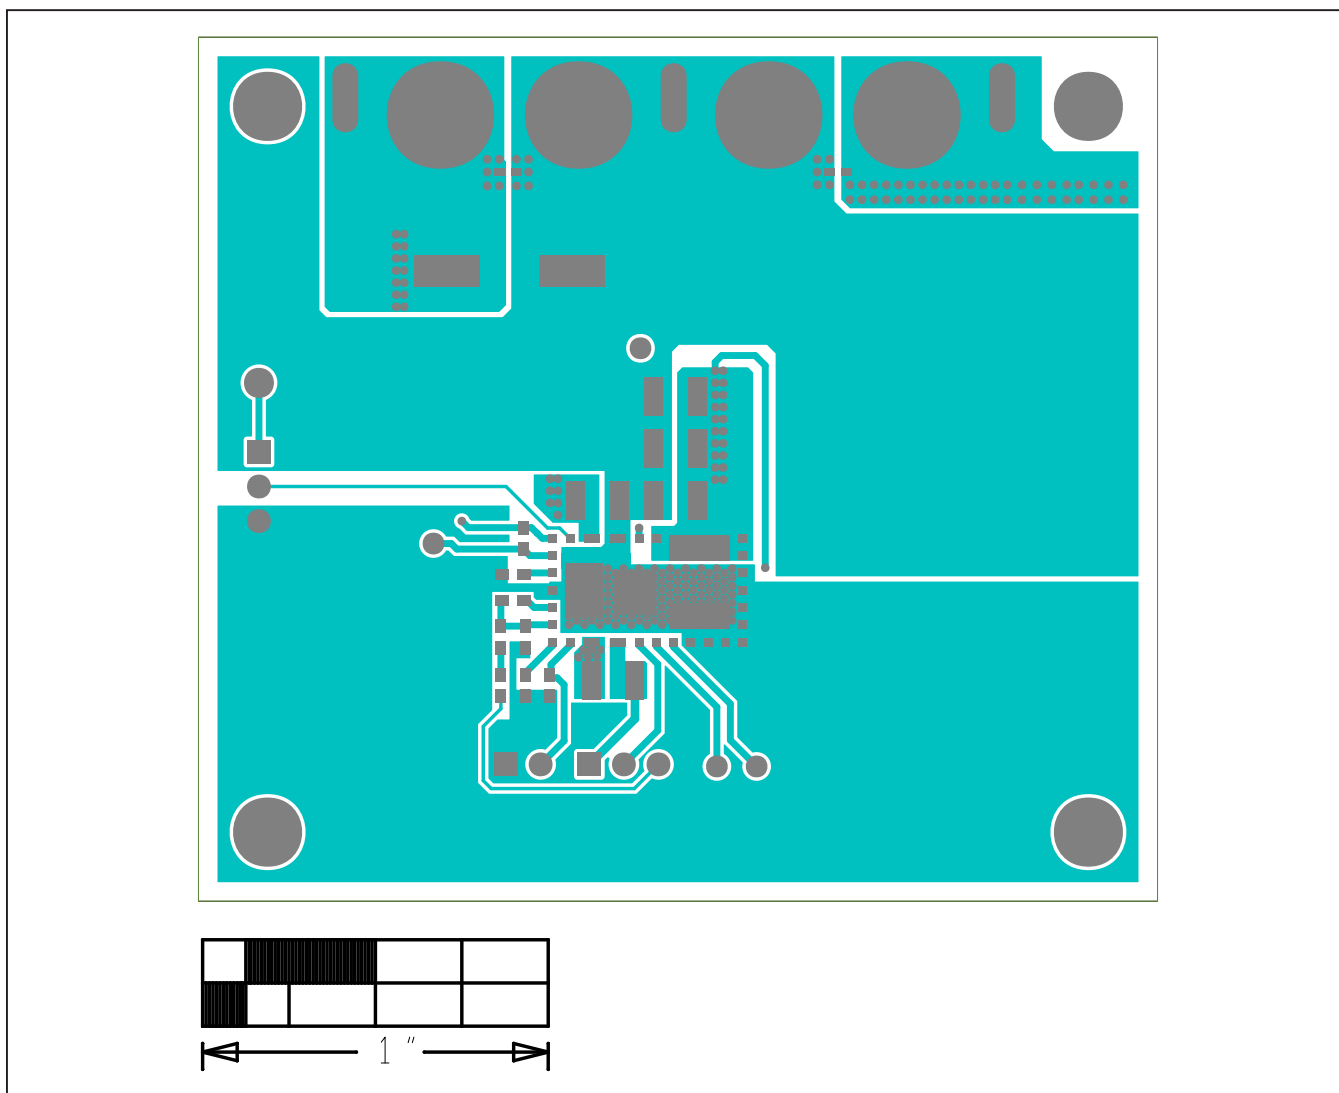

Figure 2. MAXM17546 5V Output EV kit PCB Layout---Top Layer
- 5) Verify that shunts are not installed on jumper J1 (see Figure 2 for details).